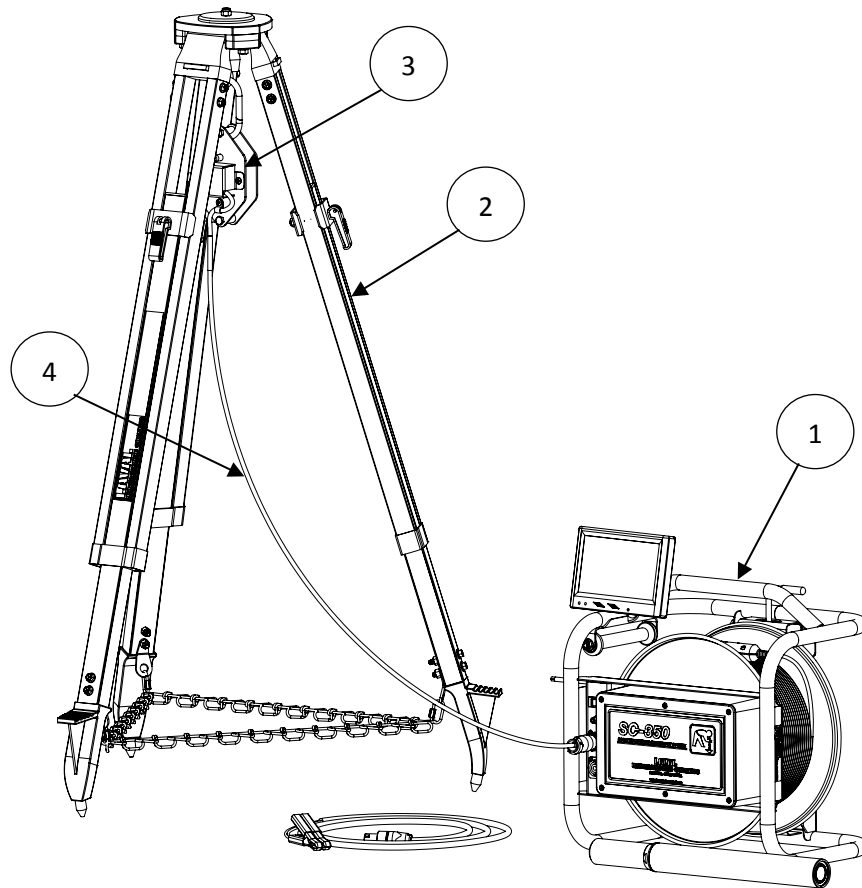
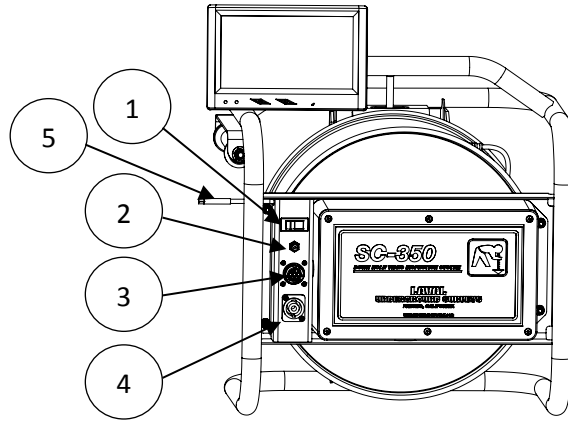
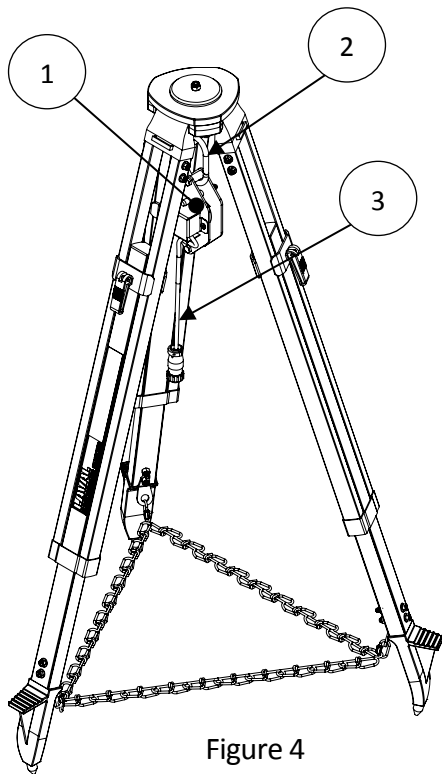

Figure 1
Figure 2
Figure 4
1. Position the ON/OFF switch to **OFF**. (Figure 2 Item 1)
2. Position the reel assembly (Figure 1 Item 1) and tripod (Figure 1 Item 2) with encoded sheave (Figure 1 Item 3) so when the camera is connected it will be approximately centered over the well.
3. Connect the system encoder cable (Figure 1 Item 4). (See Figure 2 Item 3)
4. Connect the 12 V DC Battery supply cable to the side of the SC Unit **12VDC BATTERY** input. (See Figure 2 Item 4)
1. Position the reel assembly **ON-OFF** Switch (Figure 2 Item 1) to **OFF**.
2. Connect the power supply cable to the reel assembly power in plug (Figure 2 Item 4).
6. If applicable, connect encoder cable to the encoder input (Figure 2 Item 3) and position the camera in the well, near the top. To reset the depth counter to 000.00f or 000.000m turn system OFF then ON again using power switch (Figure 2 Item 1).
7. If a DVR or other recording device is desired, use the video out/RCA plug (Figure 2 Item 2).
8. Connect monitor to the monitor cable (Figure 2 Item 5) and assemble mount to reel frame (See Figure 3 Item 4).
9. After all connections are made, position the SC unit **ON-OFF** Switch (Figure 2 Item 1) to **ON**. Turn on the LCD monitor (an optional sun shade is available). Watch the monitor to verify operation. The LED lighting should be visible in the view selected.
1. Extend the three tripod legs fully away from the center of the unit until it is in a stable position. The encoded sheave assembly (Figure 4 Item 1) is mounted to the center eyebolt with the use of a mounting clip (Figure 4 Item 2) above.
2. The encoder cable (Figure 4 Item 3) should be screwed in to the reel assembly (Figure 2 Item 3) and kept clear of the camera and camera cable.
4. Adjust the length of legs by lifting the red Lock (Figure 4 Item 4) and sliding each leg to the desired length. Lower the red Lock back to lock the leg in place.